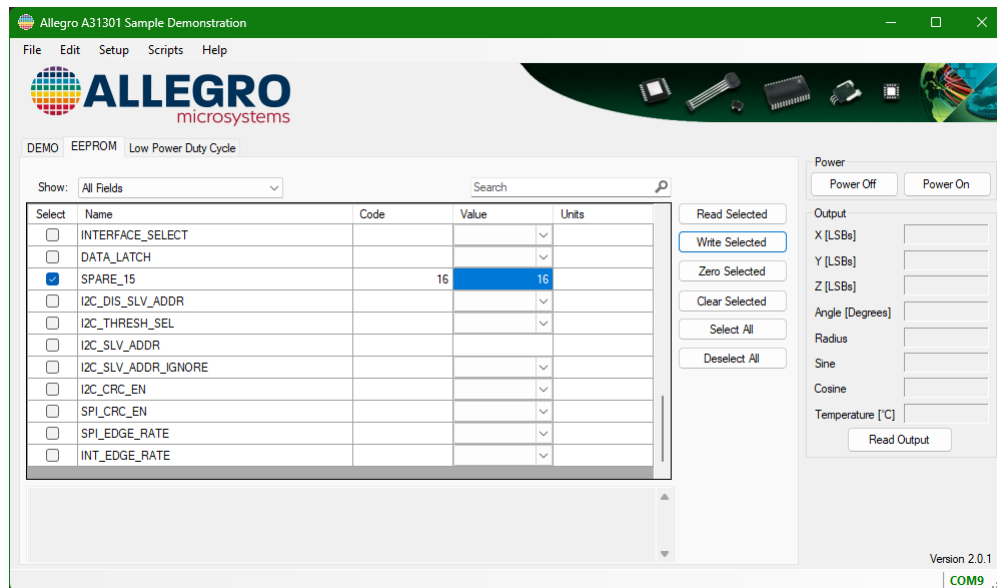

Figure 7: Writing a field
5. Click Write Selected. The window should appear as it does in Figure 7.